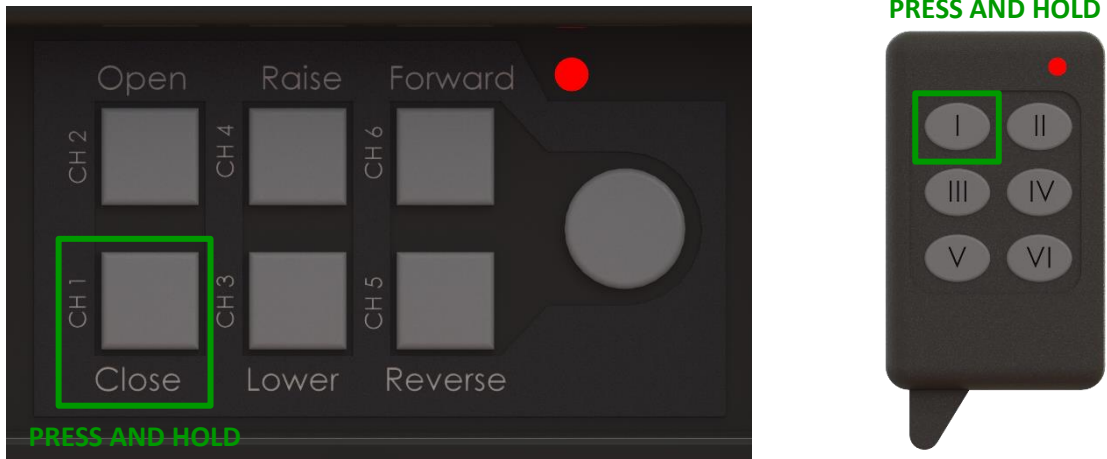

Figure 3: Tarp Deployment Procedure
3. Deploy tarp and walk to the rear of the container. To deploy tarp, press and hold button 1 on the control box or keyfob (Figure 3), or on non-remote systems the manual switch to wind and unwind the tarp. In rare cases with stationary pivot systems, you may have to do this before pulling the container all the way onto the truck/trailer.